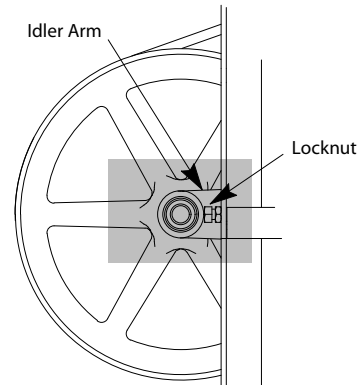

Figure 2 - Locknut Adjustment Screw
7. Check and adjust, as necessary, the tension of the 3 V belts between the drive wheel and the jack shaft sheave. See Figure 2 on page 9.